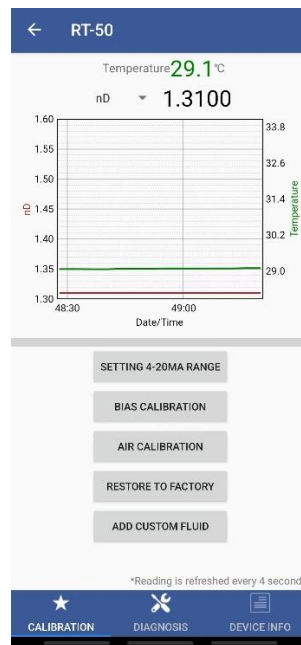

Figure 16. – Calibration Screen Interface uPyxis Mobile APP.
7. Once the calibration is complete, press the **MODE** key to return to measurement mode (Figure 16).